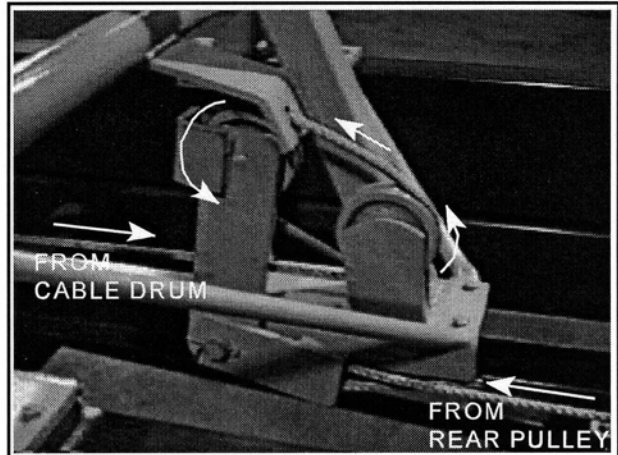

Figure 2 - CABLE installation
- Insert this end of CABLE at bottom of 4" pulley on PUSHER, pull CABLE around to the top of this pulley, then insert CABLE at top of pulley on CABLE TIGHTENER BRACKET and pull it around to the bottom of this pulley (see Figure 2). Form loose end of CABLE into a U-shape, insert through narrow end of holder on PUSHER and secure
TIGHTENER BRACKET, pass cable through holder on other end of TOOL and secure with WEDGE. Tighten CABLE by screwing in bolt on end of TOOL. Form loose end of CABLE in U-shape, insert through holder in CABLE SWIVEL and secure with WEDGE. The free end of the CABLE must be at the bottom of the CABLE SWIVEL with WEDGE and HOLDER to the inside (see Figure 2). Adjust cable tension until CABLE SWIVEL slips onto pin on CABLE TIGHTENER BRACKET. Secure CABLE SWIVEL with flatwasher and cotter pin and remove TOOL.